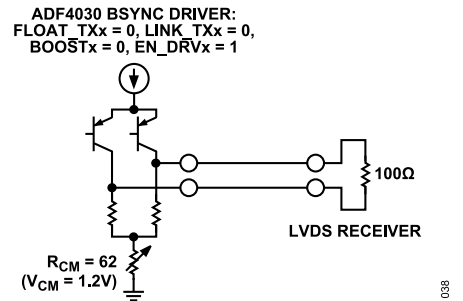
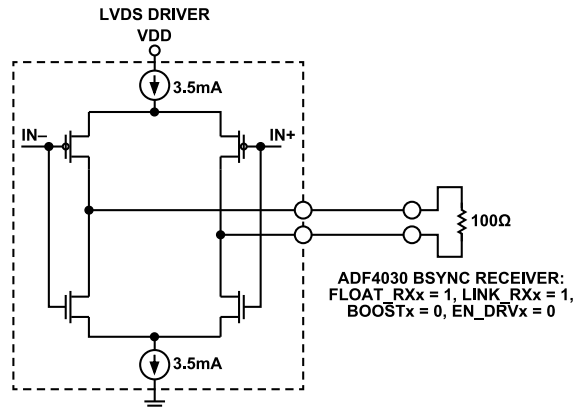

Figure 38. ADF4030 BSYNC to LVDS Receiver Connection
Figure 39. LVDS Driver to ADF4030 BSYNC Receiver Connection
- ▶ An LVDS receiver (Figure 38 and Figure 39)